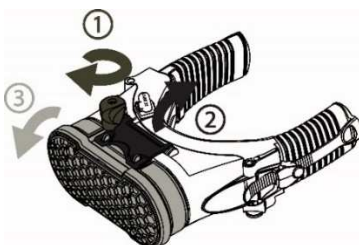

Figure 29 - Removing HE Filter
- Turn the respirator upside down. Using your thumb, move the latch lock out of the way and then pull the latch firmly away from the filter. The filter can now be removed. See Figure 29.